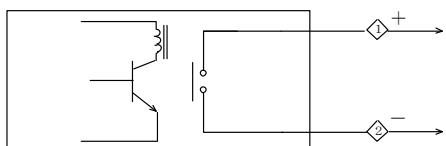

Fig.3
3. When the power source line is affected by an external noise, make a grounding of the G terminal ⑥.
4. The circuit for each output specification is as **Fig.3** shows. Make a connection suitable to each output specification.